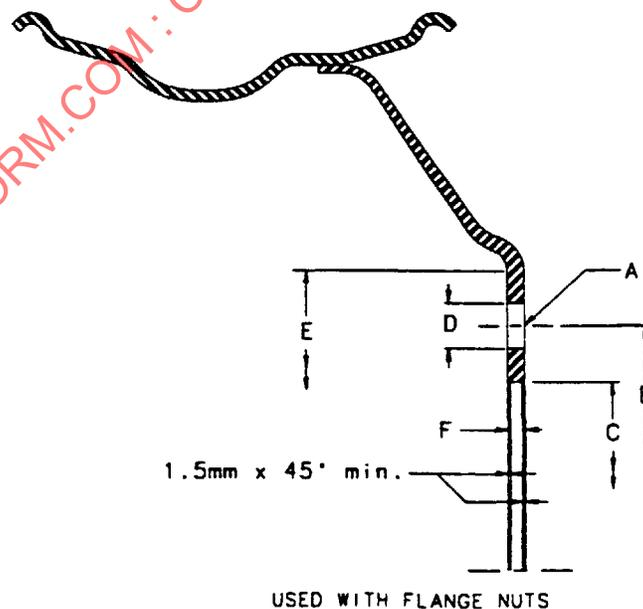

FIGURE 1—FERROUS DISC WHEEL
3. **Definitions**—A detailed listing of basic nomenclature is contained in SAE J393. Figures 1 to 13 introduce, illustrate, and specify additional nomenclature and definitions.
5.1.1 DEFINITIONS OF WHEEL DIMENSIONS—Reference Figures 1 and 2.